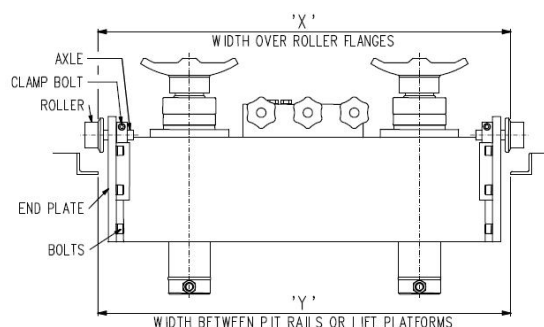

Fig.1
3. BESCHRIJVING KRIK (zie Fig.1)